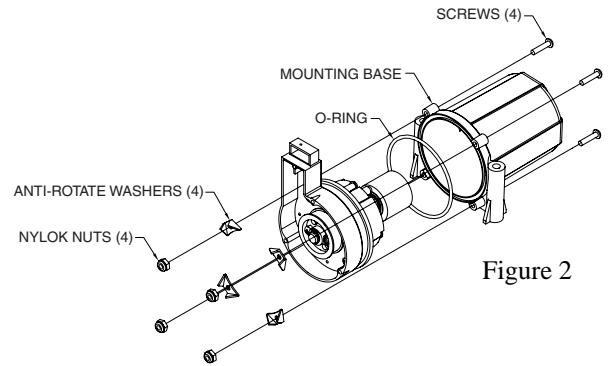

Figure 2
3. Remove Mounting Base by removing four screws as shown in Fig. 2 and sliding Mounting Base away from mechanism.